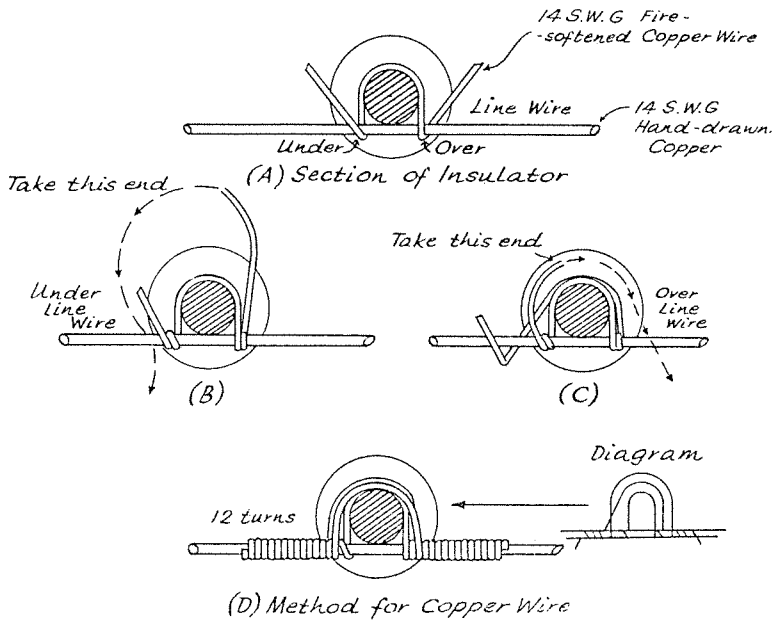

Fig. 17.
59. Figure 17 indicates the method of attaching the wire to the insulator. When dealing with copper wire, extra care must be taken to ensure that the wire is not damaged by scratching or nicking, otherwise the wire will break. The wire in this case should be No. 14 s.w.g. line wire, *softened by fire*.